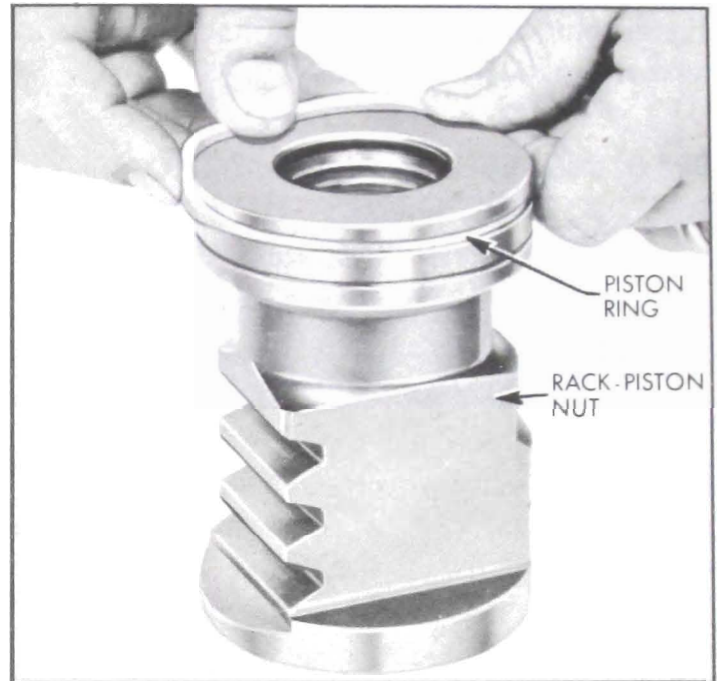

Figure 8-50—Installing Piston Ring on Rack-Piston Nut
2. Install new piston ring on rack-piston nut by inserting ring in groove as shown and carefully working it around rack-piston nut. See Figure 8-50.